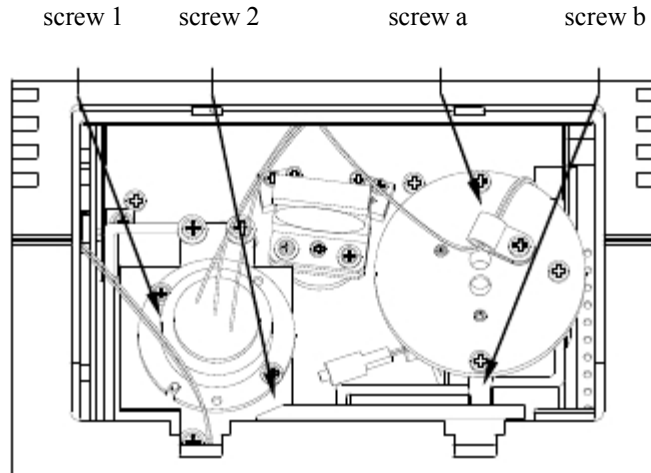

Figure 11.1 Lamp compartment
This instrument is designed for easy access in lamp replacement. Minimum adjustment is required for the replacement. The tungsten halogen lamp is seated in a specially designed holder that is located in the right half part in the lamp compartment (Figure 11.1). However the deuterium lamp that comes up with a ring-typed aluminum seat is located in the left half part respectively.
- ◆ Unscrew the retaining screws (screws a and b in Figure 11.1) of the holder of tungsten halogen lamp. And pull the holder straightly upward.
- ◆ Unscrew the retaining screws (screws 1 and 2 in Figure 11.1) on the white aluminum seat for the